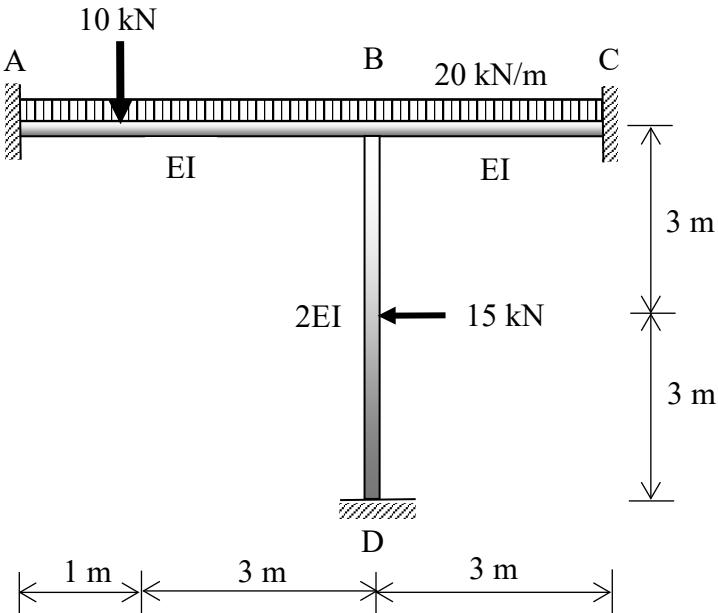

Figure B2(a) / Rajah B2(a)
- CLO1 (a) A statically indeterminate portal frame is loaded as shown in Figure B2(a).
- CLO1 (b) Indicate the slope deflection equation for each member that experiences the internal moments.in Figure B2(a).